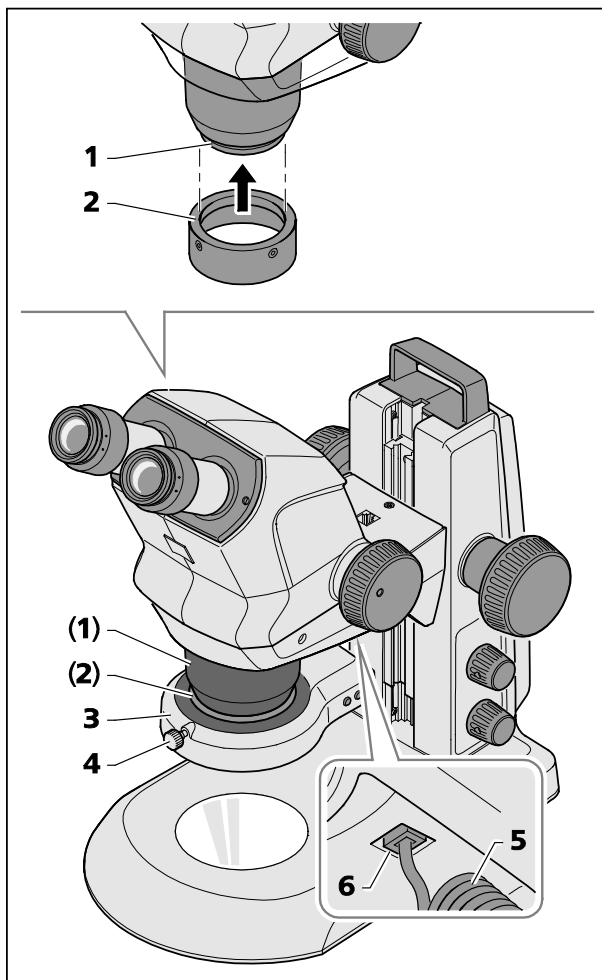

Fig. 10 Mounting ring illuminator
- Push holding ring A53 (Fig. 10/2) from the underside onto the dust protection glass (Fig. 10/1) of the Stemi 508 and secure it by tightening the two retainer screws (hexagon socket, SW 3).
- Insert the connection cable (Fig. 10/5) of the ring illuminator (Fig. 10/3) into the lower socket (Fig. 10/6) of the Stemi mount and into the socket of the ring illuminator.
- Push ring illuminator onto the retainer ring A53 (Fig. 10/2) from below and secure using the knurled screw (Fig. 10/4).